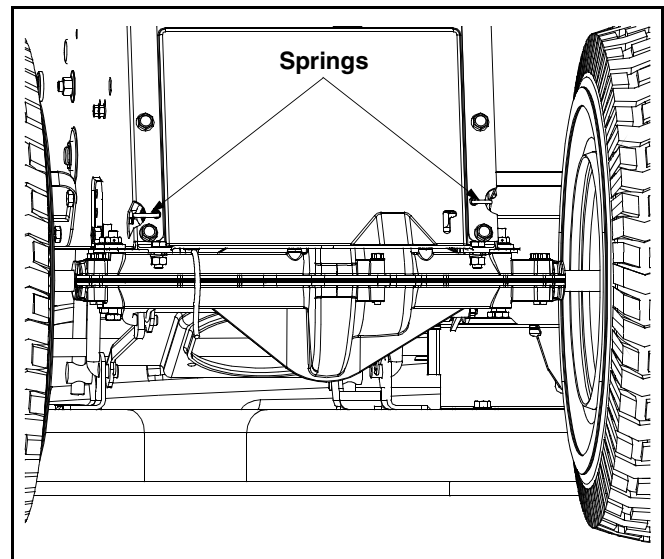

Figure 32
- Using a spring puller (MTD Part No. 732-0571) or other suitable tool, disconnect the two springs which are attached to the rear portion of the tractor frame. See to Figure 32.